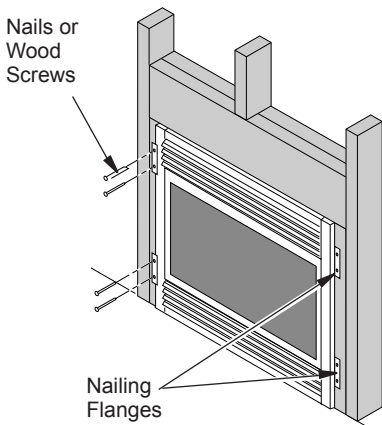

Figure 26 - Attaching Fireplace to Wall Studs
8. Attach fireplace to wall studs using nails or wood screws through holes in nailing flange (see Figure 26, page 18).